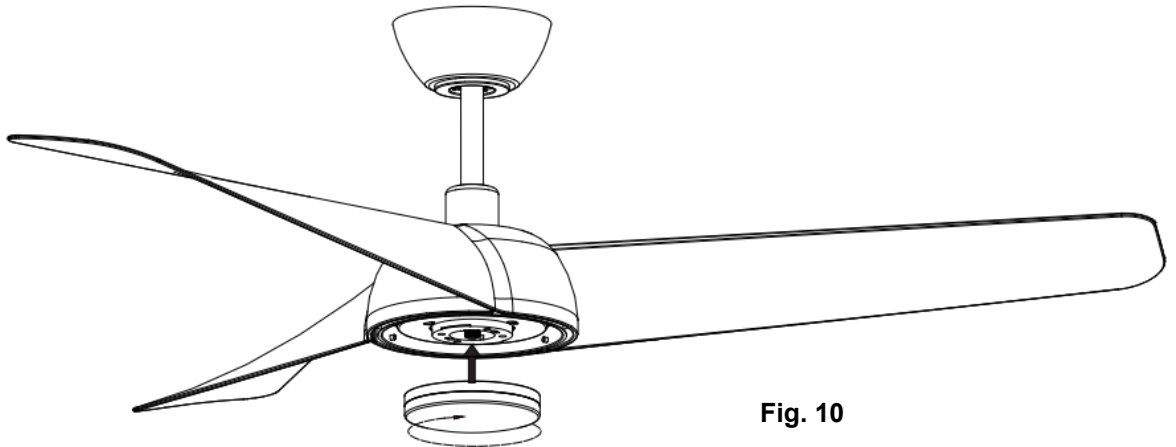

Fig. 10
**INSTALLATION OF LAMP (Fig. 10)**
- Install the lamp on the fan assembly then secure it by turning clockwise. (Fig. 10)